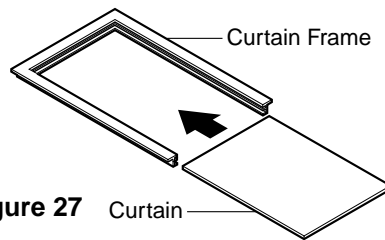

Figure 27
8. Slide curtain into curtain frame. Slide curtain frame assembly into side guides of the air conditioner cabinet. Make sure curtain is firmly enclosed on all sides by the frame. (See Figure 27)